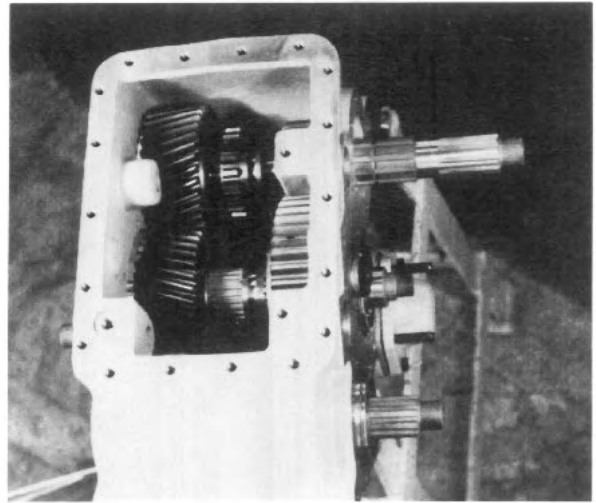

Fig. 30
5. Slide input shaft through the underdrive pinion gear and into the direct drive sliding clutch (Item 10). When splines come into contact with the pinion gear, align splines, continue shaft installation, align splines with splines in underdrive gear sliding clutch (See Fig. 30), and again continue sliding shaft into place through the bearings (Item 11) and gear (Item 22). Slip spacer washer (Item 23) (.06 thick) over rear end of input shaft.